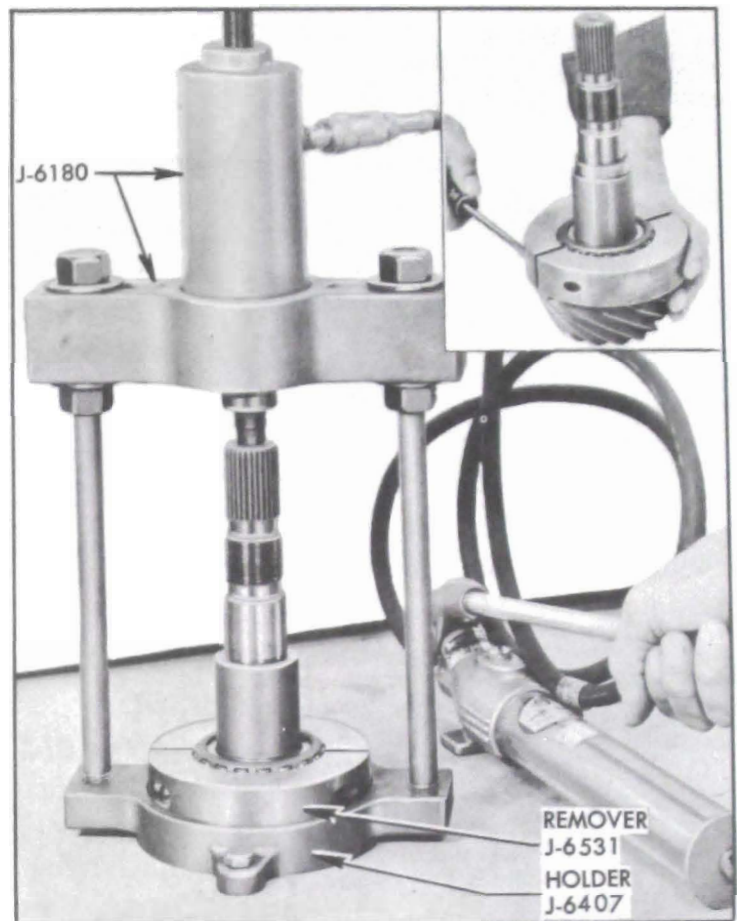

Figure 6-20—Removing Rear Pinion Bearing
5. If rear pinion bearing is to be replaced or pinion depth setting is to be changed, remove rear bearing from pinion shaft using Remover J-6531 and Holder J-6407 in a press or in a set-up using Ram and Yoke Assembly J-6180 as shown in figure 6-20.